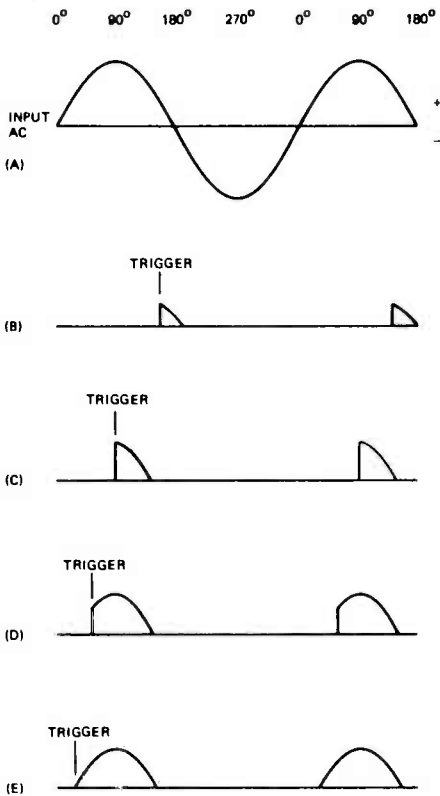

FIGURE 4. SHOWING HOW TIMING OF TRIGGER AFFECTS OUTPUT POWER.
Figure 4 shows how this is accomplished. At the top, in Figure 4(A), the input ac waveform is shown. Figures 4(B) through 4(E) show the conduction of the SCR with gate trigger pulses arriving at various times. As you can see from this drawing, the earlier in each cycle the trigger is applied, the longer the SCR will conduct current to the load, and thus the greater the average power output will be. In Figure 4(B), for example, the trigger pulse is applied to the gate nearly at the end of the positive alternation, so the power output will be very low. Of course, the SCR does not conduct at all on the negative alternation. In Figures 4(C) through 4(E) the trigger